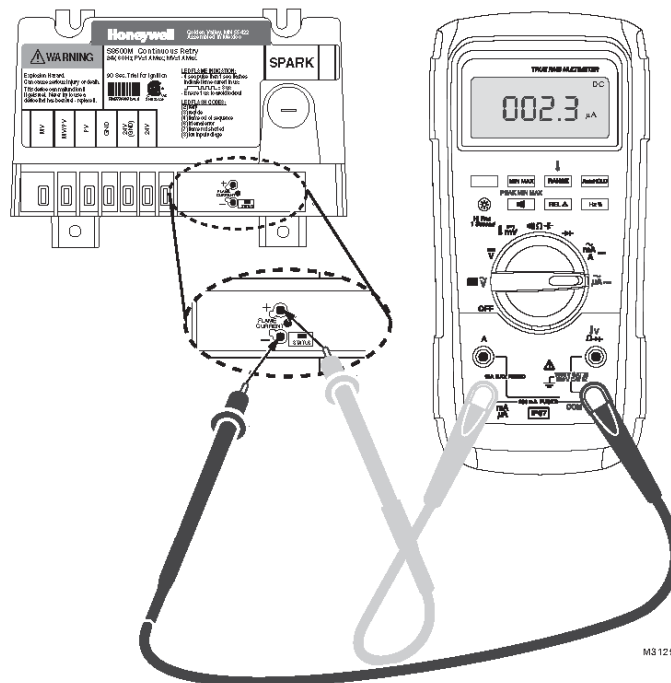

Figure 12-3: Measuring Pilot Flame Current with Micro-ammeter
A. Flame Current Measurement Procedure. See Figure 12-3 “Measuring pilot flame current with micro-ammeter”
- i. Pilot flame current in micro amps can be measured using any standard micro-ammeter by inserting the meter probes into the module holes labeled FLAME CURRENT as shown in Figure 12-3.